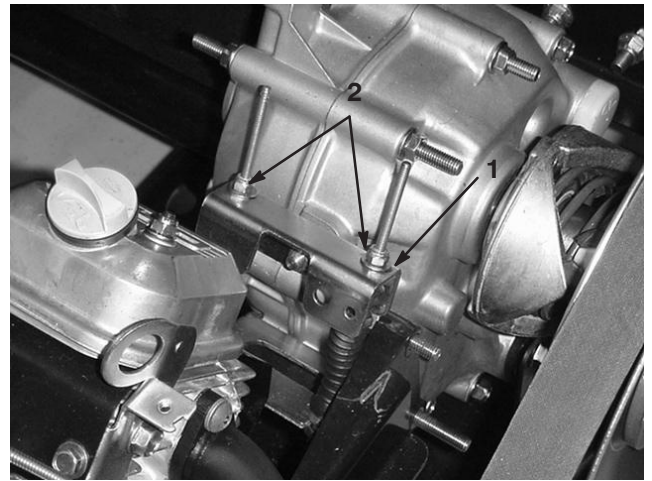

Figure 26
When performing routine maintenance and/or engine diagnostics, the transaxle must be shifted into neutral (Fig. 26). The vehicle has a neutral position on the shift lever, which controls the neutral in the transaxle. The following steps should be taken to make sure that the neutral shift lever operates the transaxle neutral correctly:
2. Ensure that the neutral bracket is in the neutral position (level) by turning the drive clutch (Fig. 26). The vehicle should not roll back and forth. If it does, manually move the neutral bracket to the neutral position.
3. Tighten one of the locknuts (Fig. 26) just enough to take the slack out of the shift cable.